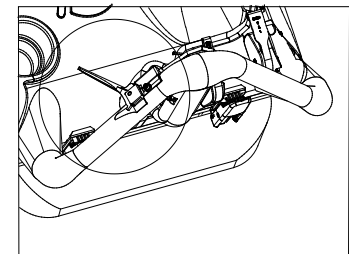

Fig. 15
2. Squeeze the drive clutch lever against the handle to engage the drive. (See Fig. 15)